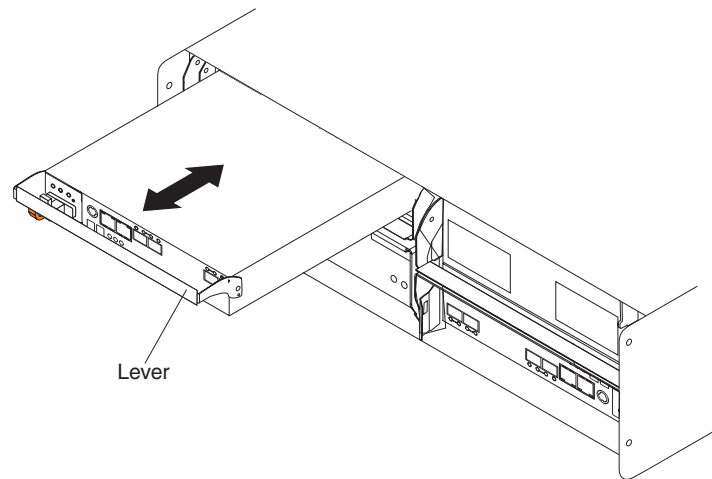

Figure 75. Removing a controller from the DS3950
9. Slowly pull the lever away from the chassis to remove the controller from the bay. Use two hands when releasing the controller levers. Figure 75 on page 121